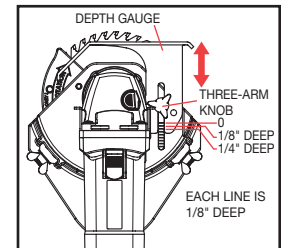

Figure 7
- To adjust, loosen the three-arm knob on the depth gauge and move the depth gauge in and out as required (Figure 7).
- A depth gauge adjustment scale is provided just behind the three arm knob with nine 1/8" increments (Figure 7).